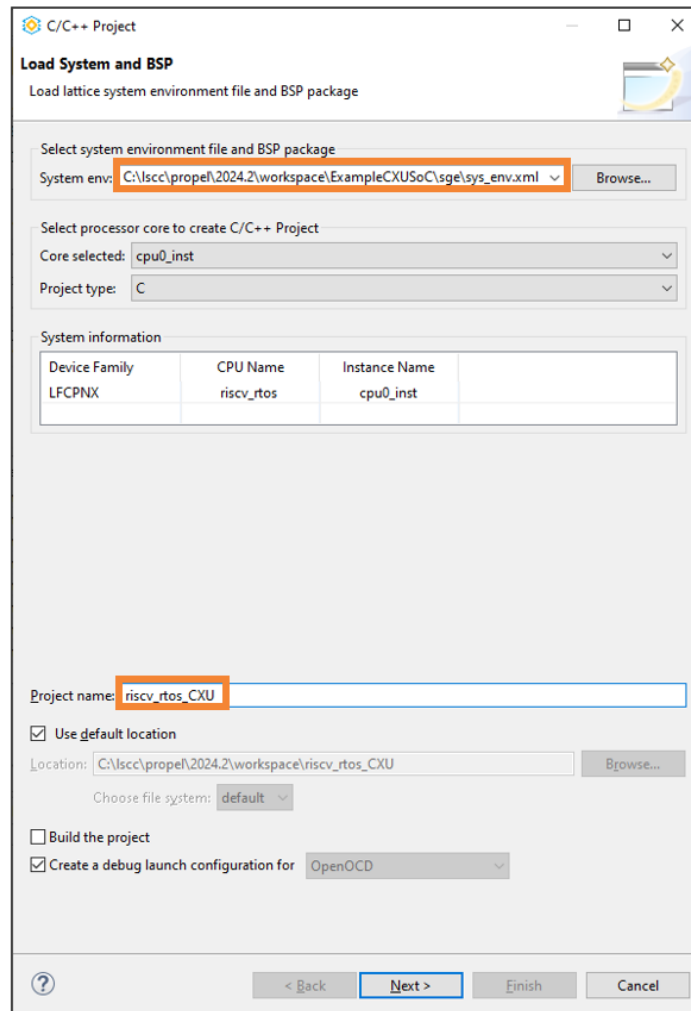

Figure 7.2. Load System and BSP Page 3
1. The Timing Profiling C project can be created through the **Load System and BSP** page (Figure 7.2).